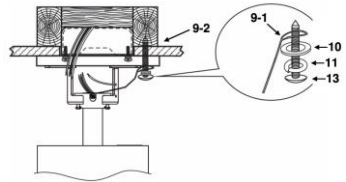

Fig. 9
10. Assemble the supplied wood screw (#13), spring washer (#11) and flat washer (#10) (Fig. 9).